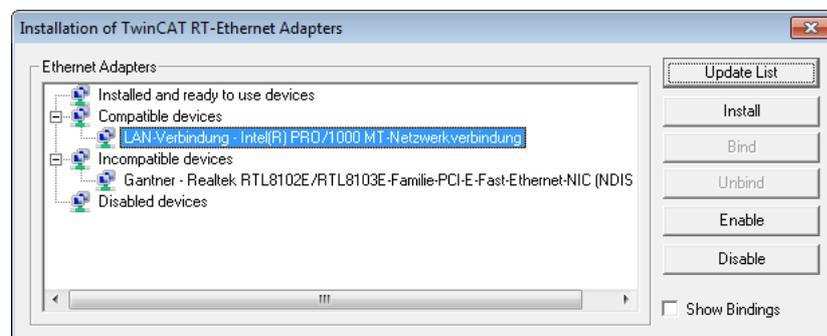

Fig. 6-18 Selecting the interface adapter.
2. Mark one of the interface adapters specified under **Compatible devices** and click on **Install** so that the real-time driver for this adapter is installed (Fig. 6-18).